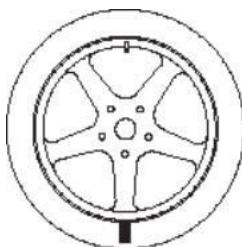

Fig. F5.6 - Marking the tyre at 180° respect to the valve
5. Remove the wheel from the shaft, remove the tyre bead, rotate it so that the mark is at 180° respect to the valve (see figure F5.6);